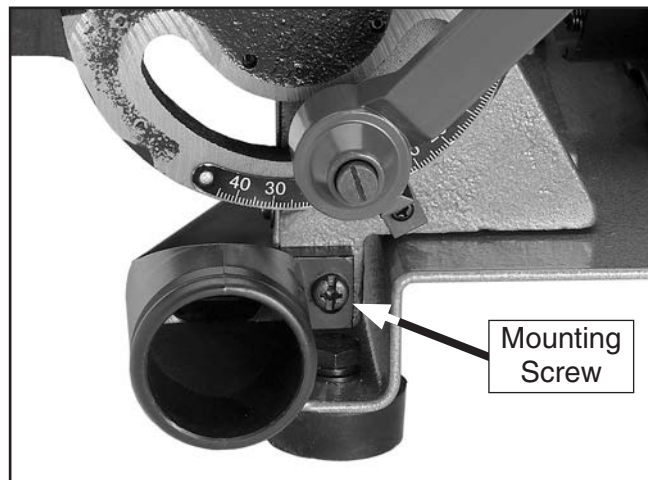

Figure 17. Disc dust port installed.
16. Secure the dust port, as shown in **Figure 17**, with the M6-1 x 12 Phillips head screw and flatwasher.